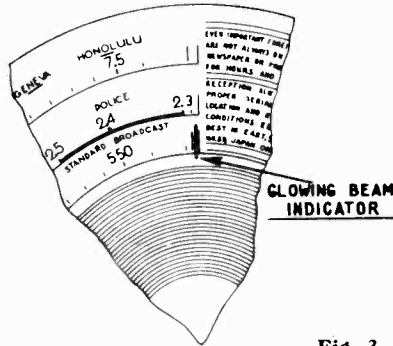

Fig. 2—Dial Calibration
Fig. 1 shows the Voltage measurements taken from the bottom of the sockets at each contact. In Fig. 2, the correct position of the dial indicator, for proper adjustment of the compensators is shown. Fig. 3, and 4, are the location of the I. F. and R. F. compensators respectively.
**DIAL ADJUSTMENT**—In order to adjust this receiver correctly, the dial must be aligned to track properly with the tuning condenser. To do this, rotate the tuning condenser control to the extreme counter-clockwise position (maximum capacity). Loosen the set screw of dial hub, then turn dial until the glowing indicator is centered between the index lines of dial scale (see Fig. 2). Now tighten the dial hub set screw in this position.